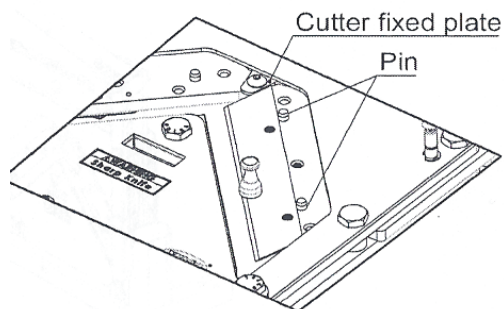

Figure 15
- 7) Starting with the **Right Blade First** Hold the new Blade with the provided magnet and place the new Blade against the edge of the Cutter Fixing Plate and onto the 2 Pins. See Figure 15.